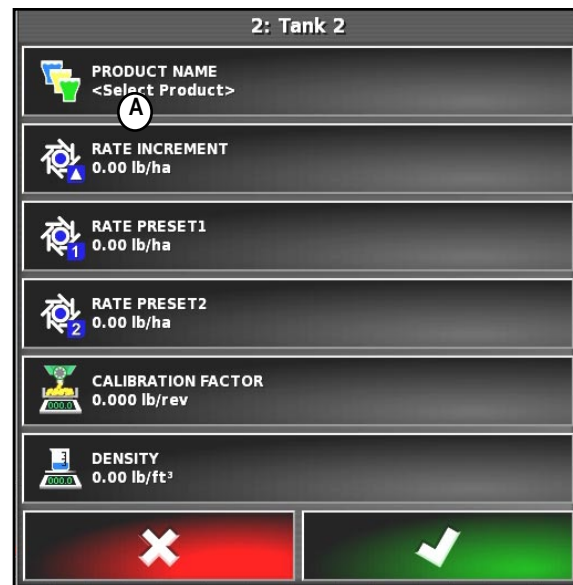

Figure 8.1 - Product Panel - No Product Selected
- a. Select "Select Product" button (If this tank was previously used, the name of the previously used product will be shown as the name of that button). Product panel for this tank will appear, refer to *Figure 8.1*.
The title block (*Item A, Figure 8.1*) displays name of the tank (Bin # or Tank #, product name or empty, or custom name) depend on the settings, refer to *Section 6.7.1 - Granular Setup and 6.7.2 - NH3/Liquid Setup*.